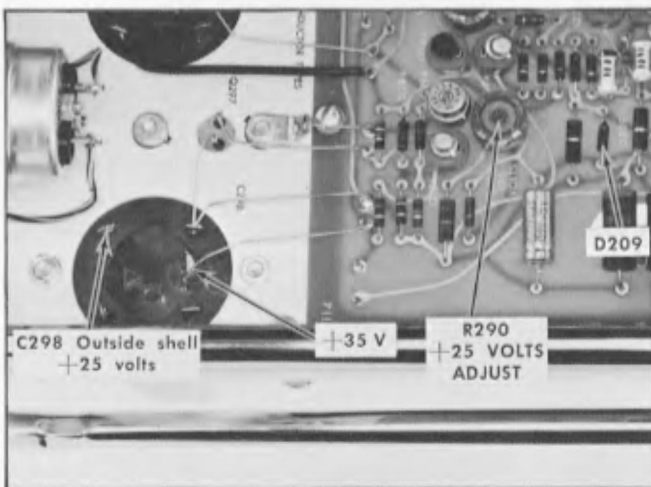

Fig. 4-4. +25 volt supply adjustment.
- f. Connect the VOM negative lead to chassis ground. Connect the positive lead to the outside shell of C298 (see Fig. 4-4).